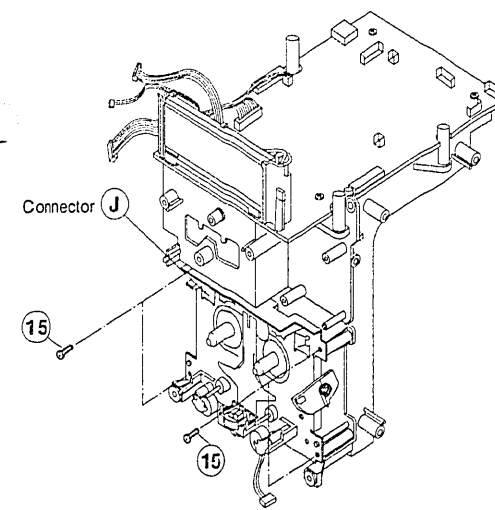

Fig. 12
- (1) Remove 3 screws ⑭ from the Main Chassis.
- (2) Pull out the Tuner P.W.B gently from CD P.W.B to disconnect ⑭ and then disconnect ⑮.
11. **Removal of Cassette Mecha deck (Fig. 12)**